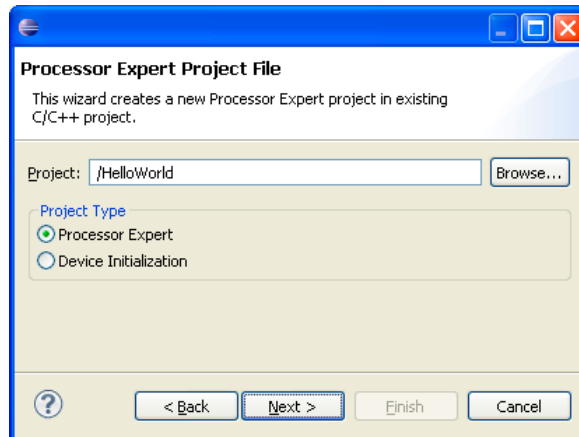

Figure 7. Processor Expert Project File Screen
4. Click **Next** to open the **Processor Expert Project File** screen as shown in Figure 7.